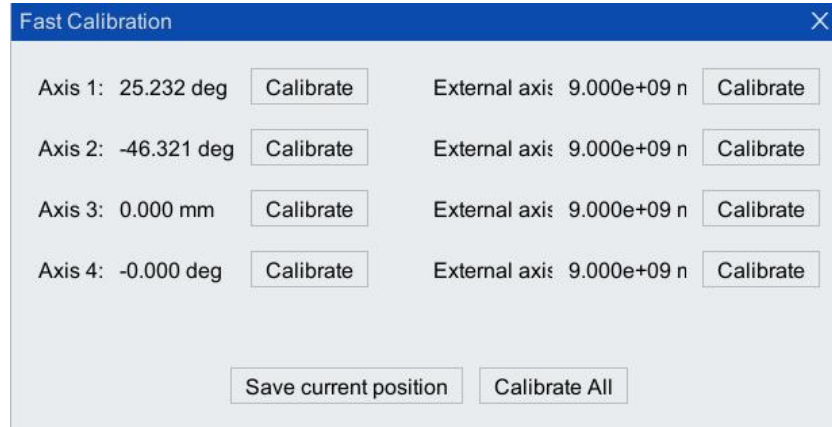
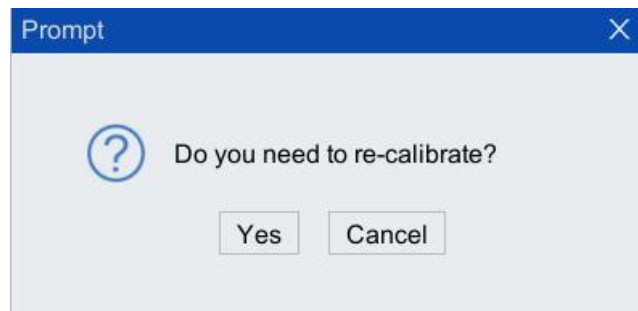

Figure 5-68 "Quick Calibration" Interface
Figure 5-69 "Are you sure to recalibrate?" dialog box
- Step2. On the main interface of the teach pendant, click "Run > Calibration > Quick Calibration" option to enter the "Quick Calibration" interface shown in Figure 5-68. Click <Save Current Position> button, and then the system will record the robot's current axis position.
- Step4. Re-enter "Fast Calibration" interface in Figure 5-68, and click <Calibration> button behind any axis or <All Calibrations> button below, and "Do you need to re-calibrate?" dialog box will pop up, as shown in Figure 5-69. Click <Yes> button, and "Message Bar" of the system will display "One axis or all axes are calibrated successfully", and the corresponding axis will be completed to the previously recorded position.